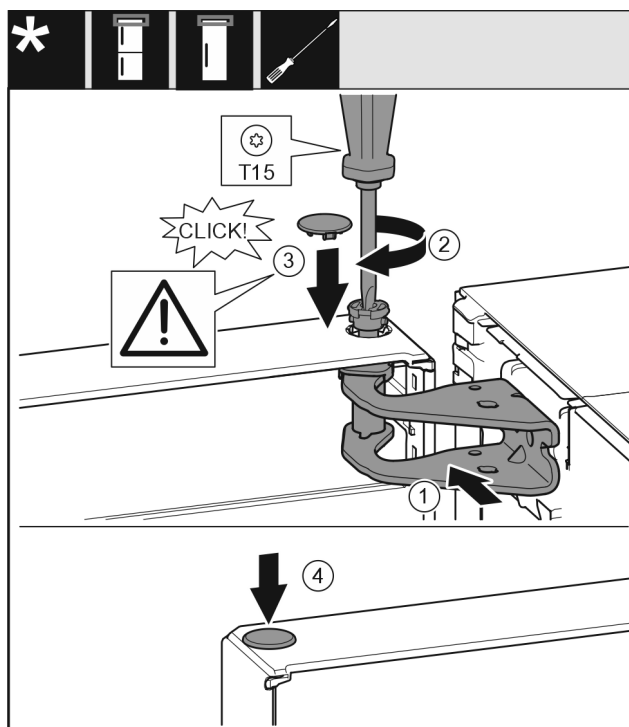

Fig. 24
- Align the top door with the opening in the swap bearing block Fig. 24 (1).
- Insert the bolt Fig. 24 (2) and use screwdriver to tighten it.
- Insert the cover Fig. 24 (3).
- Check that the cover Fig. 24 (3) is resting on the door.
- Insert the cover Fig. 24 (4).